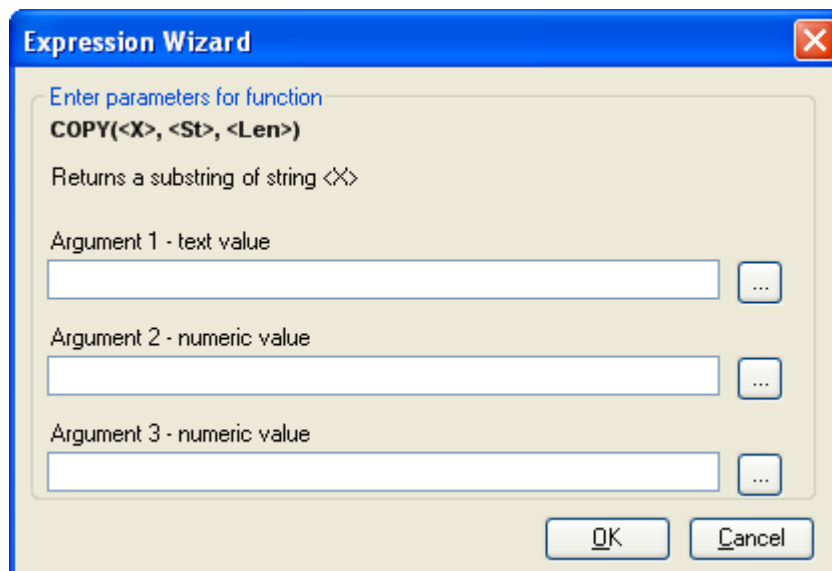

Figure 46 - Function Parameter Window
- Click on the **Function** button to go to the **Select Function** (Figure 36) window. After selecting the required function, click on the **Continue** button to bring up the **Function Parameter** (Figure 46) window.